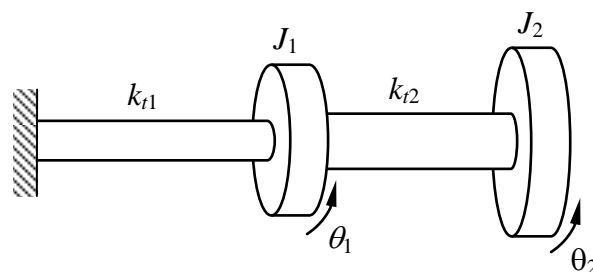

Fig. Q5A
- 5A. Determine the equations of motion and find the natural frequencies for the torsional vibration system shown in figure Q5A. Take  $J_1 = J$ ,  $J_2 = 2J$ ,  $k_{t1} = k_{t2} = k_t$ . 05